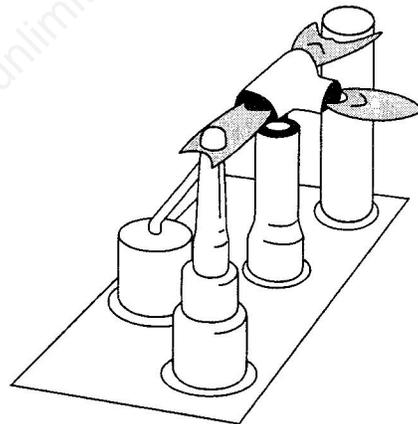

Figure 49. Correct pilot flame. Pilot assembly is located at the left forward corner of the burner area.
6. Turn the main gas control knob counterclockwise to the PILOT position and push it in. With your other hand, immediately push the ignitor button in until the pilot flame ignites. You may have to push the ignitor repeatedly. Continue to hold the control knob in for about one (1) minute after the pilot is lit. Then, release the knob and it will spring back out. The pilot should remain lit and appear as in Fig. 49.